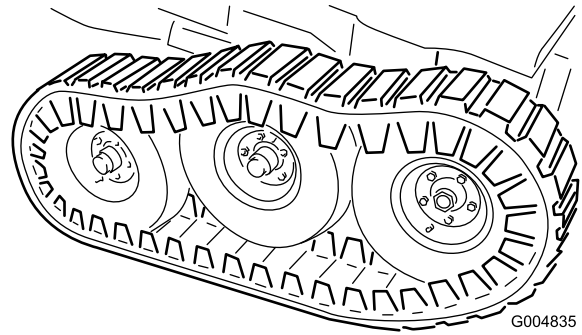

Figure 32
25. Adjust the floor jack to a suitable height to install the center tire. Lift the center of the track enough to install the center tire (Figure 32). Torque the lug nuts to 65 to 85 ft-lbs (88 to 115 N-m).